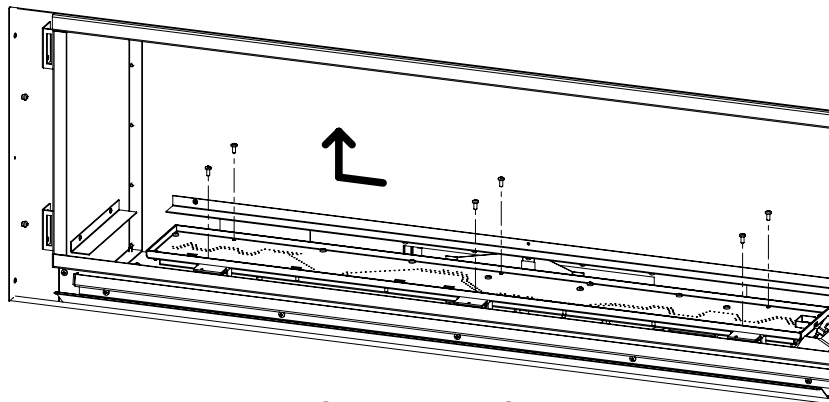

Figure 6. Removing Burner
6. Remove the six T-20 screws securing the burner pan as shown in Figure 6; do NOT remove the other T-20 screws. Once the specified screws are removed slide burner to the left and lift out to remove.